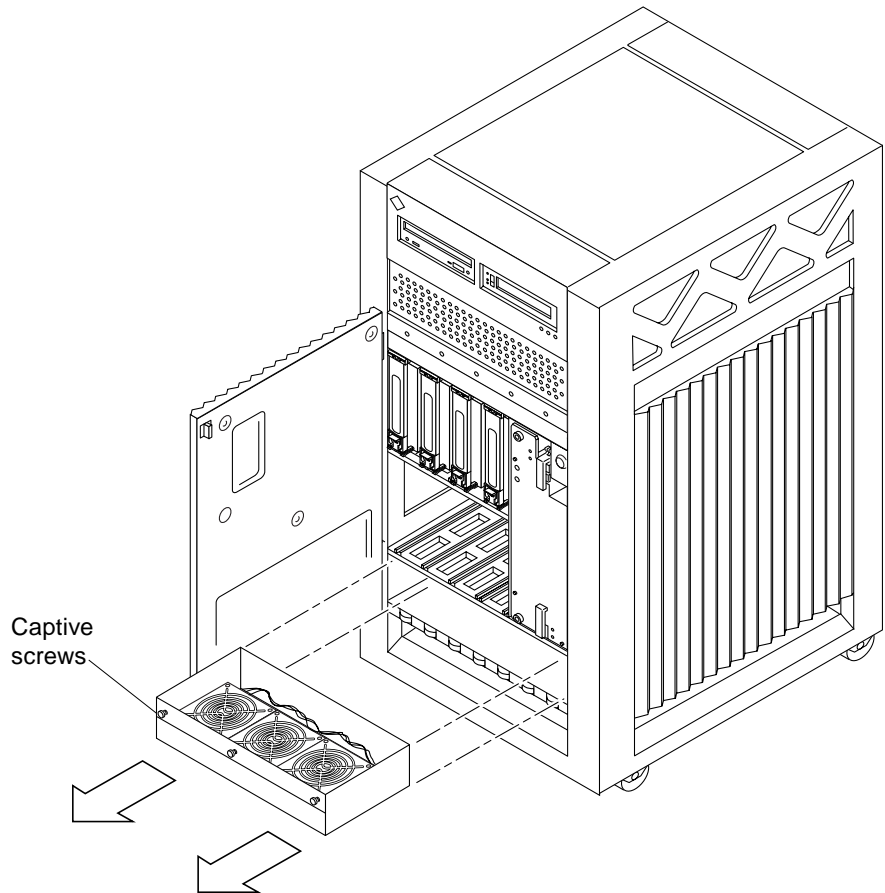

FIGURE E-1 Removing the Fan Tray Assembly
- 3. Loosen the three captive screws securing the fan tray assembly in the chassis (FIGURE E-1).**
1. Carefully insert the fan tray assembly in the bottom of the Enterprise 3500 system (FIGURE E-1).